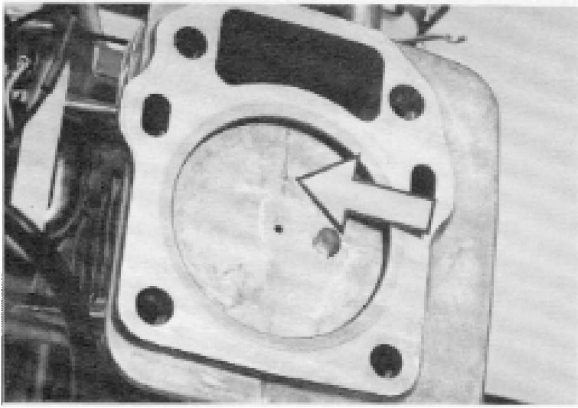

Figure 4-49
5. The arrow on the face of the piston should point the same direction as the arrow on the connecting rod — toward the push rods. See Fig. 4-49.